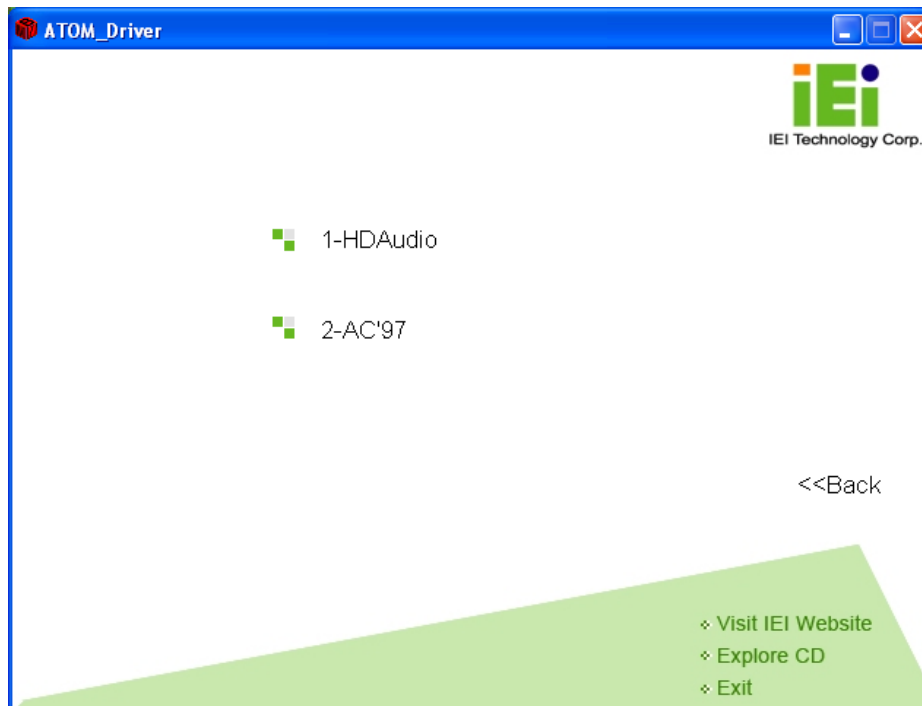

Figure 6-19: Audio Driver Options
Step 3: The screen in Figure 6-19 appears
Step 4: Select "2-AC'97" in Figure 6-19